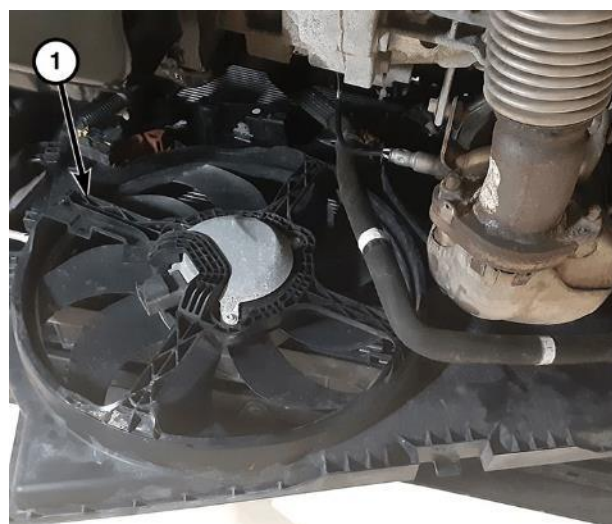

Figure 18 – Cooling Fan Module
16. Remove the cooling fan module (1) from the bottom of the vehicle (Figure 18).
20. Install the **NEW** cooling fan module (1) to the vehicle from the bottom (Figure 18).